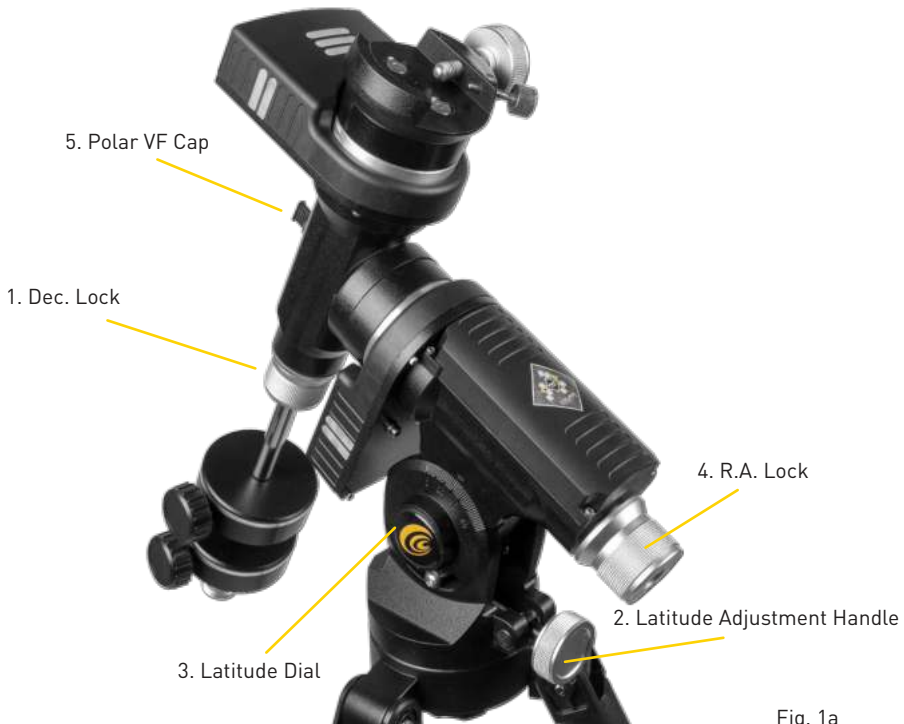

Fig. 1a
- Unlock the R.A. Lock [4, Fig. 1a] Rotate the Optical Tube Assembly until the counterweight shaft is pointing straight down over the mount.
- If you have not already done so, lift the telescope assembly and turn it so that the tripod leg beneath the counterweight rod faces approximately North (South in the Southern Hemisphere). Release the Dec. lock [1, Fig. 1a] of the tripod, so that the optical tube may be rotated. Rotate the optical tube until it points North (or South in the Southern Hemisphere). Then re-tighten the lock. Locate Polaris, the North Star, if necessary, to use as an accurate reference for due North (or Octantis in the Southern Hemisphere).
- If you have not already done so, determine the latitude of your observing location. Visit the [LATITUDE AND LONGITUDE TOOL](http://explorescientific.com/latitude_longitude/) at explorescientific.com/latitude_longitude/ to find latitudes of any place on Earth. Once you have found your observing location, use the Latitude Adjustment Handle [2, Fig. 1a] to tilt the telescope mount so that the pointer indicates the correct latitude of your viewing location on the latitude dial [3, Fig. 1a].